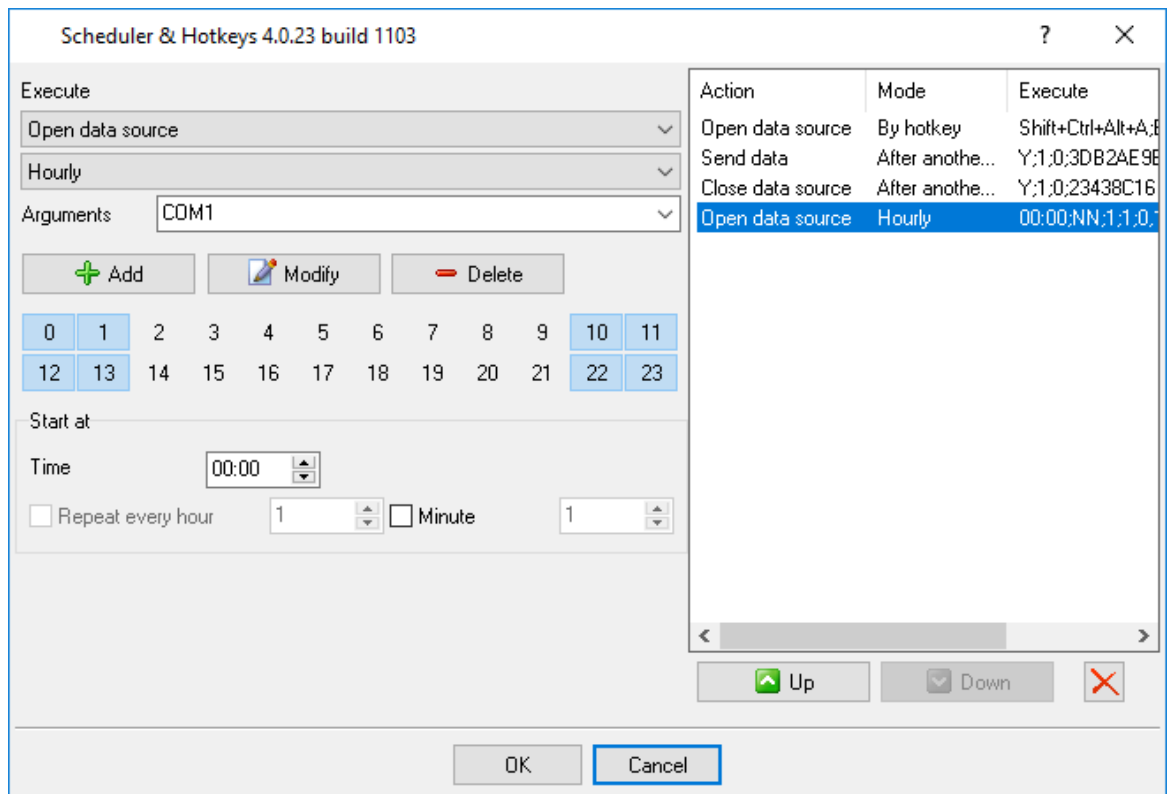

Fig.2. Task mode
**Hourly** - you should use special buttons to select hours when the task will be performed. The task will be performed daily at the specified hours. You can specify minutes in the Time field (fig.2). Note: hours specified in the Time field are ignored.